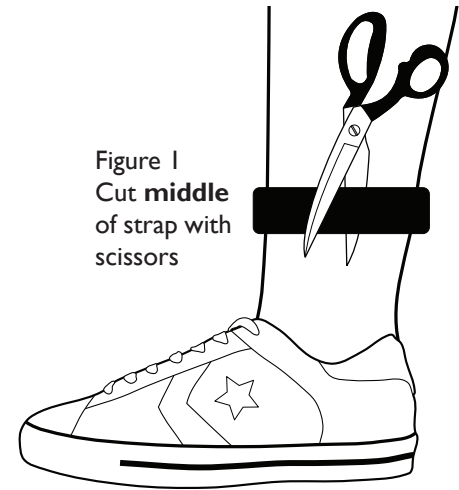

Figure 1
2. Cut the **middle** of the strap with scissors and remove the tag from the subject. (**Figure 1**)